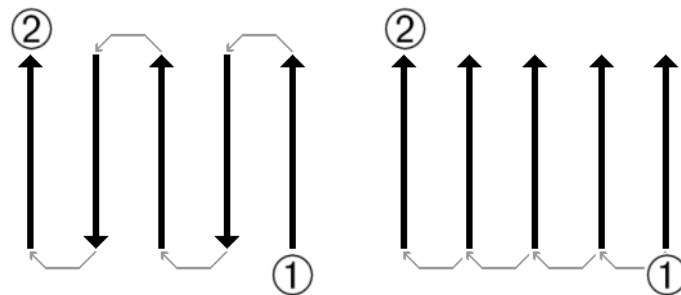

Figure 46: Given manner
Figure 46 shows all different ways of scanning in a scheme. The measurement starts at your starting point ① and ends at point ②.